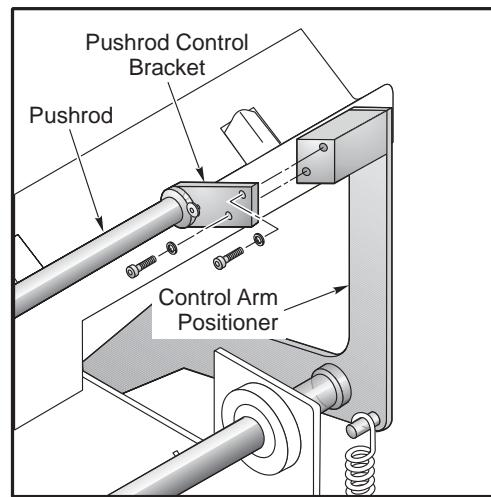

Figure 4.2 Pushrod control bushing attachment
3. Remove the two socket head bolts from the push rod control bracket located on the control arm positioner. Refer to Figure 4.2. Slide the bracket to the left and the push rod to the right until it comes out of the clamp bracket.